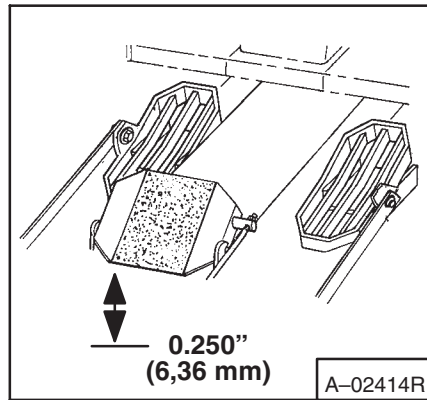
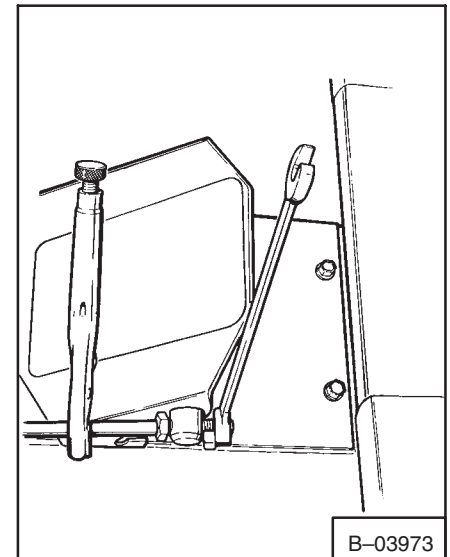

Fig. 4-1 Brake Pedal
Fig. 4-2 Brake Pedal Adjustment
1. There must be 0.250 inch (6,36 mm) of movement under the bottom edge (heel) of the brake pedal (Fig. 4-1). This is done by first loosening the jam nut (Fig. 4-2, Item 1) and then turning the nut on the end of the linkage rod (Fig. 4-2, Item 2). The brake pucks must make contact with the brake discs when the pedal is moved 0.250 inch (6,36 mm), but not be fully engaged.